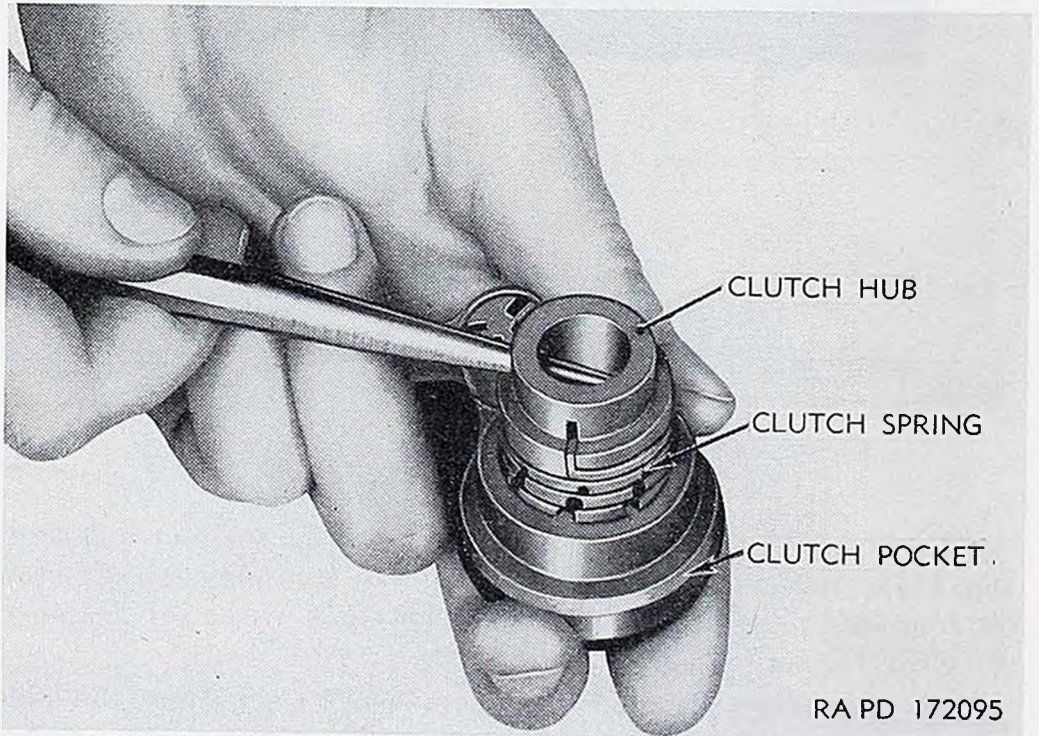
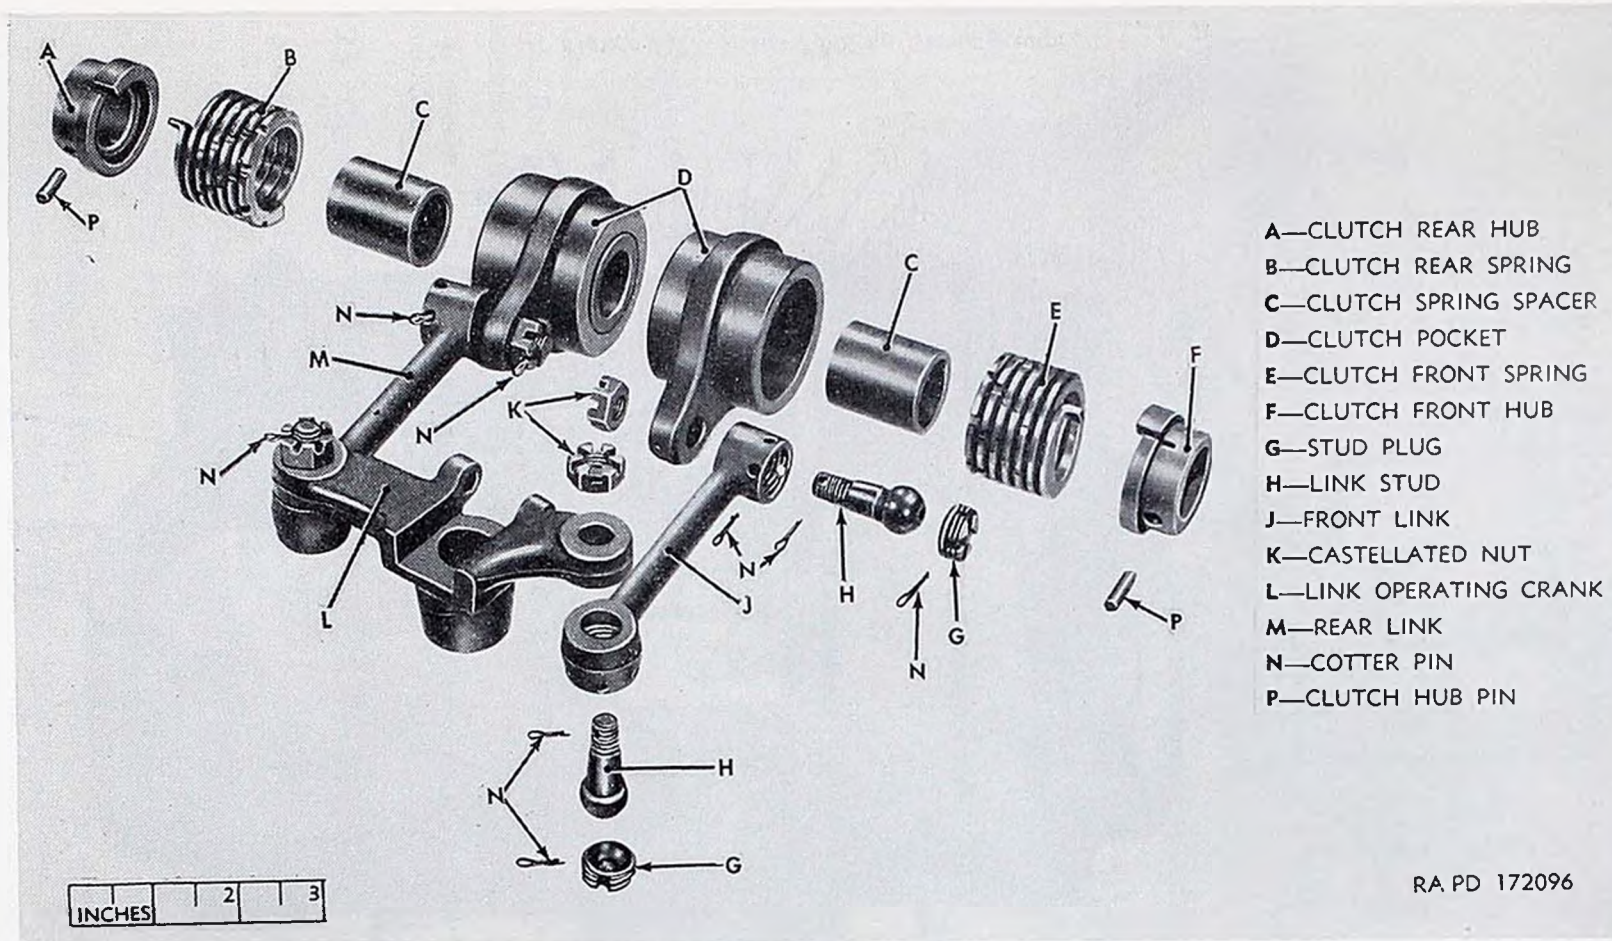

Figure 145. Removal of clutch spring.
Figure 146. Clutch drive parts—feed mechanism AN-M2.
i. Insert a drift punch through holes of clutch hub, twist clutch spring in a direction tending to wind it, and remove clutch spring while turning it in clutch pocket (fig. 145). Separate clutch spring from clutch hub (fig. 146). Withdraw clutch spring spacer (fig. 146).
j. Remove cotter pins and castellated nuts from the four link studs (fig. 146). Remove cotter pins from the four stud plugs and unscrew the four stud plugs (fig. 146). Drive out studs with a soft hammer, being careful not to damage threads.